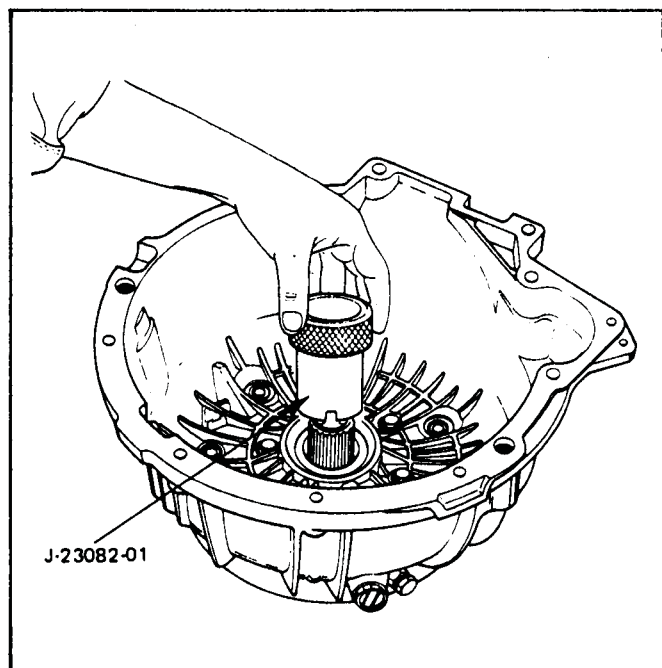

Figure 112
41. Once again ensure free rotation of oil pump gears, using pump rotation tool J-23082-01, as shown in Figure 112.